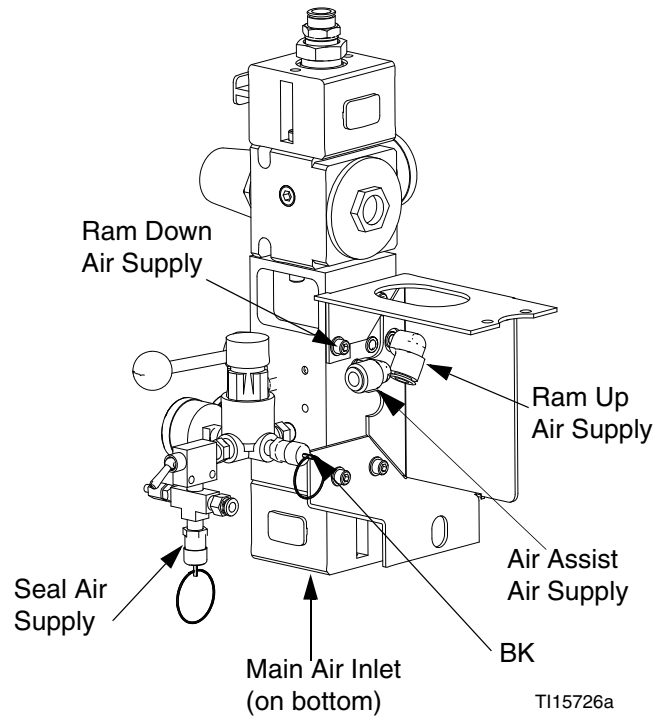

FIG. 3: Air Control Modules
- H Enclosed Air Controls (*see FIG. 3; exposed air controls also available.*)
See FIG. 3. Air inlet size is 1/2 npt(f) on the Enclosed Air Controls and 3/4 npt(f) on the Exposed Air Controls. The integrated air controls include:
- **Main air valve (BA):** turns air on and off to the system. When closed, the valve relieves pressure downstream.
- **Ram air regulator (BB):** controls ram up and down pressure.
- **Ram director switch/valve (BC):** controls ram direction.
- **Exhaust port with muffler (BD)**
- **Air motor regulator (BE):** Controls air pressure to motor.
- **Air motor switch/slider valve (BF):** turns air on and off to the air motor. When closed, the valve relieves air trapped between it and the air motor.
- **Air assist valve (BG):** turns air on and off to push the ram plate out of an empty drum. Uses line air.
- **Inflatable seal air regulator (BH):** controls air pressure to the inflatable seal.
- **Inflatable seal switch (BJ):** controls the inflation and deflation of the ram plate seal.
- **Air relief valve (BK):** automatically relieves excessive pressure.
- **Seal bleed off valve (BL):** bleeds air from inflatable seal as needed for drum tapering. For Exposed Air Control Modules, See FIG. 3. For Enclosed Air Control Modules, the valve is located inside the box. See FIG. 4, page 16.
- **Muffler with needle valve (BN):** Allows adjustment of travel rate when lowering the ram plate. Located inside the box on the Enclosed Air Control Module. Not needed with the Exposed Air Control Module because ram rate can be adjusted with the director valve.
1. **Enclosed Air Controls:** See FIG. 3. Turn the air motor switch (BF) to off.
Exposed Air Controls: See FIG. 3. Close the air motor slider valve (BF).
2. Back the ram director air regulator down to zero. Set the ram director switch/valve (BC) to DOWN. The ram will slowly drop.
4. Turn the inflatable seal switch (BJ) to off.
6. Close the main air valve (BA).
See FIG. 3, page 12.